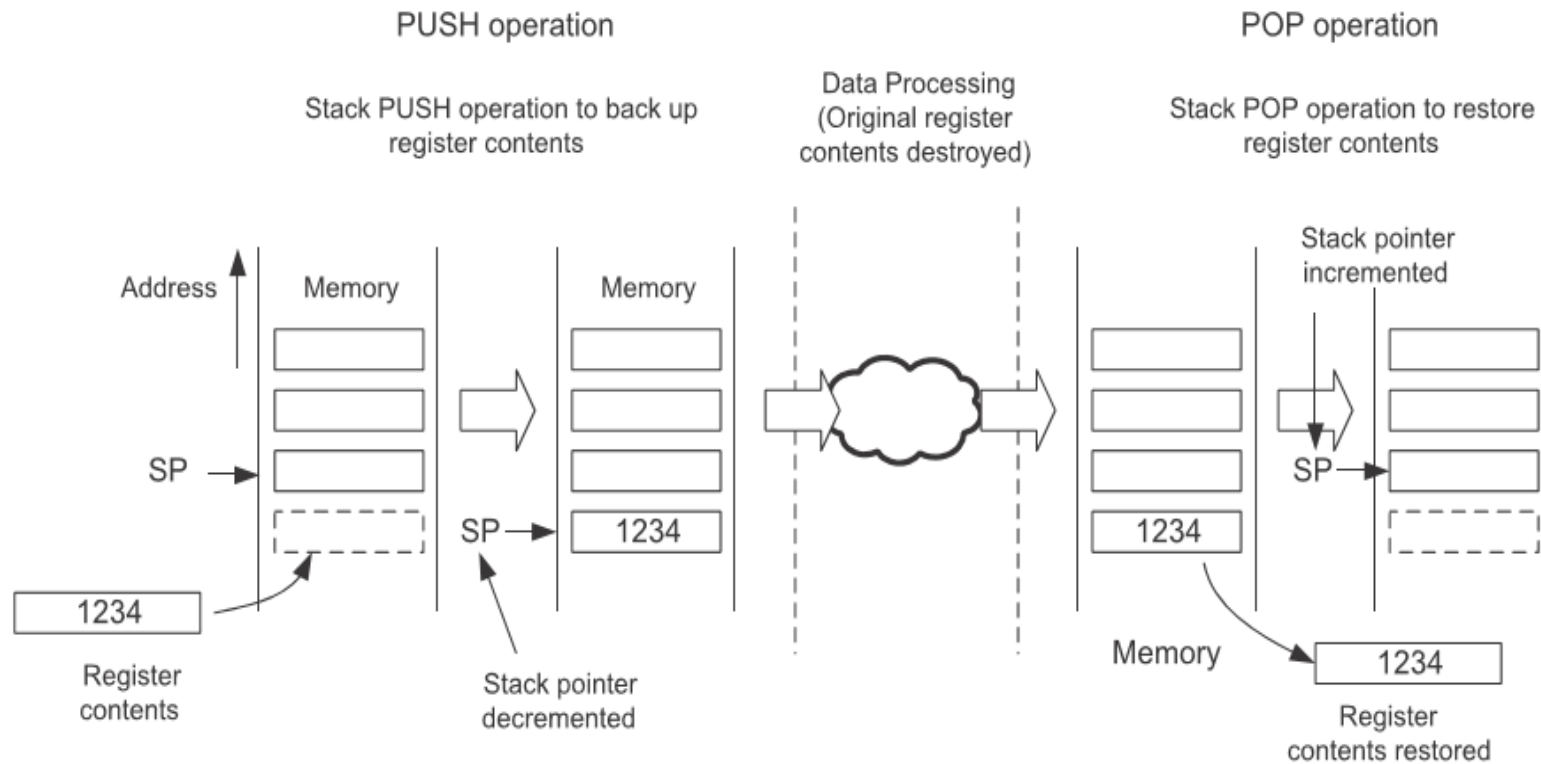

Figure 3.9:
- stack pointer always points to the last filled data in the stack memory, and the stack pointer predecrements for each new data store (PUSH) (Figure 3.9).